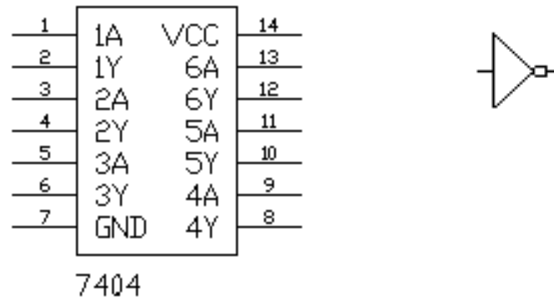

Figure 6.3
1. Figure 6.3 shows the pin layout for the 7404 IC which contains six NOT logic gates.